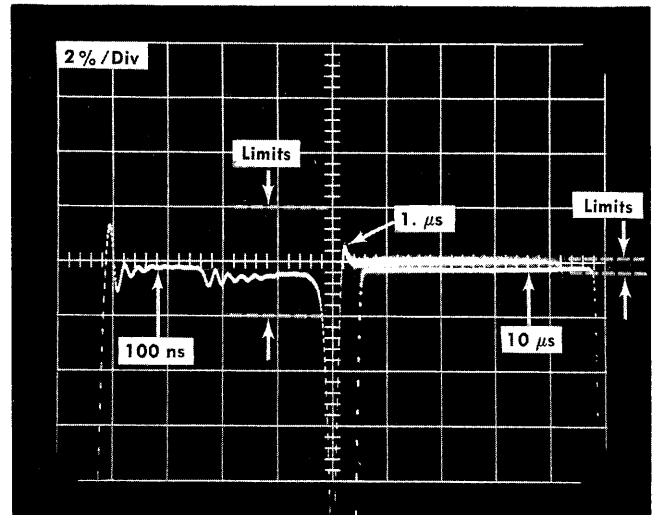

Fig. 6-8. Typical display showing Amplitude checks at 3 time periods (triple exposure).
o. Change the PERIOD switch on the Type 284 to 100 ns, and change the Equivalent Time/cm on the Type 5T3 to $10\text{ ns}/\text{cm}$. Observe the upper portion of the displayed square wave to be within 20 mV after the first 20 ns. See Fig. 6-8.